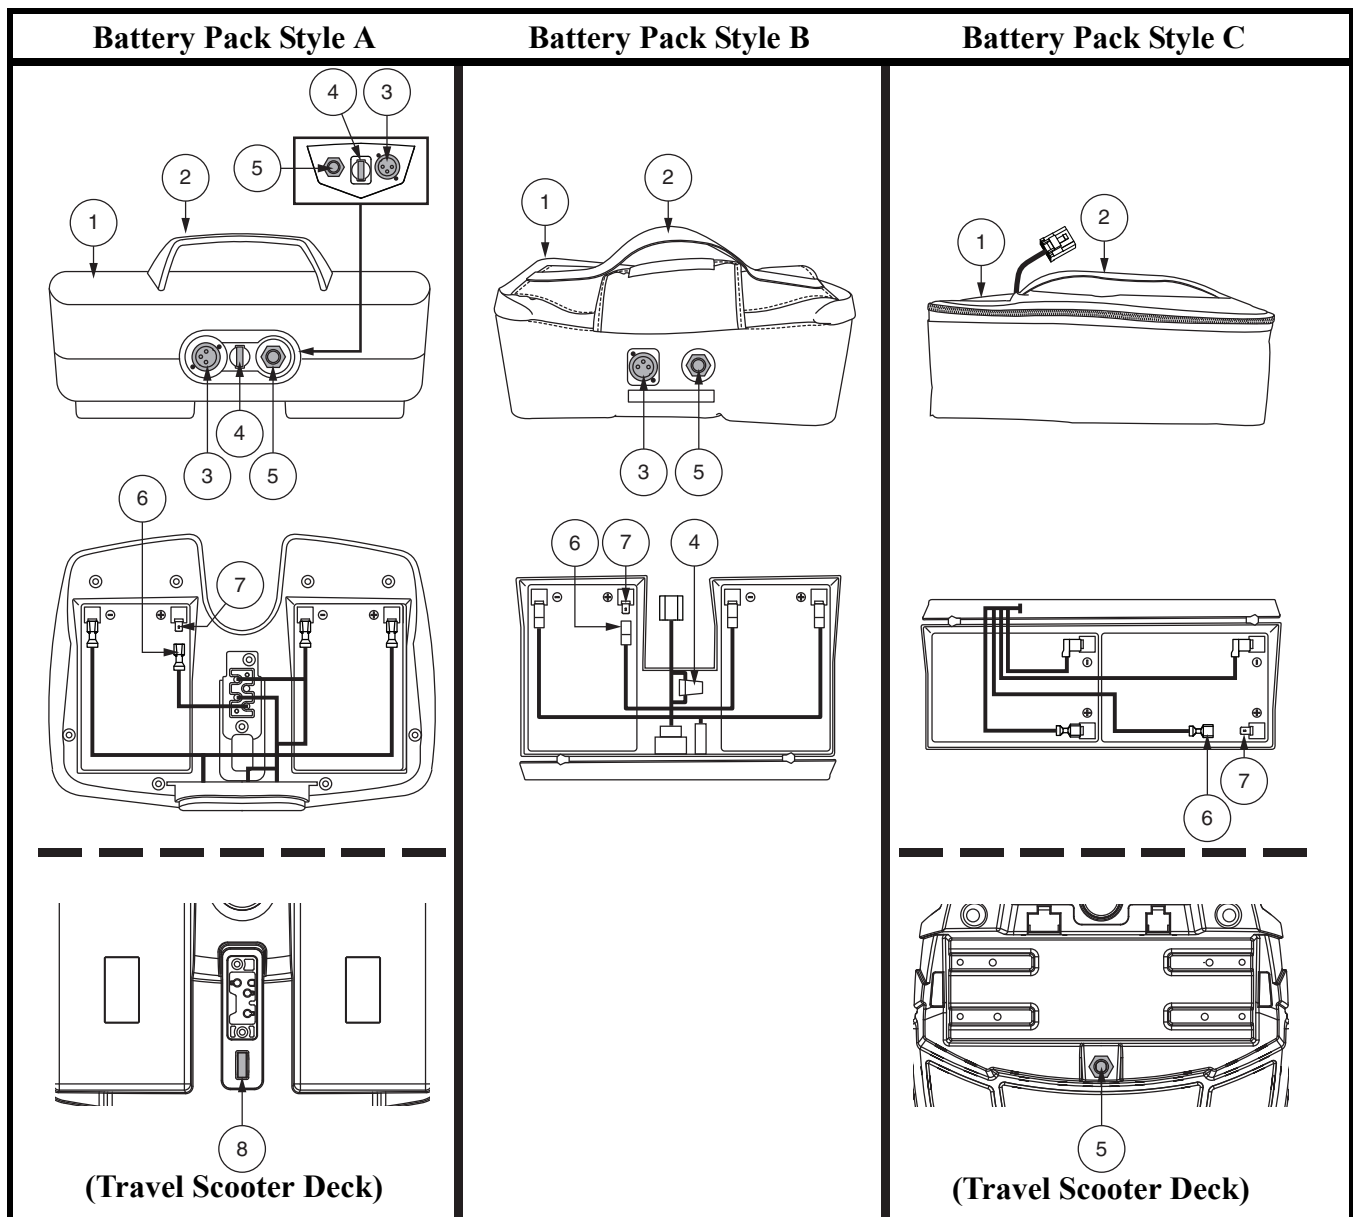

Figure 6. Battery Pack
When the voltage in your Travel Scooter's batteries becomes low or the Travel Scooter is heavily strained because of excessive loads or steep inclines, the main circuit breaker may trip to protect the motor and electronics from damage. See figure 6.
Your Travel Scooter is equipped with an innovative, easy-to-remove battery pack. A handle on the top of the battery pack makes it easy to lift the pack off of the Travel Scooter with one hand. The battery pack contains two rechargeable batteries, and may contain the charger power cord receptacle, the main circuit breaker (reset button), and the battery pack fuse. See **figure 6**.
The fuse located under the battery pack protects the tiller console electronics. See figure 6. In the event any component of the tiller console is not responding, check this fuse. See VII. “Basic Troubleshooting” for fuse replacement instructions.
- Ensure that the fuse on the battery pack is in working condition. See figure 6 or 7.